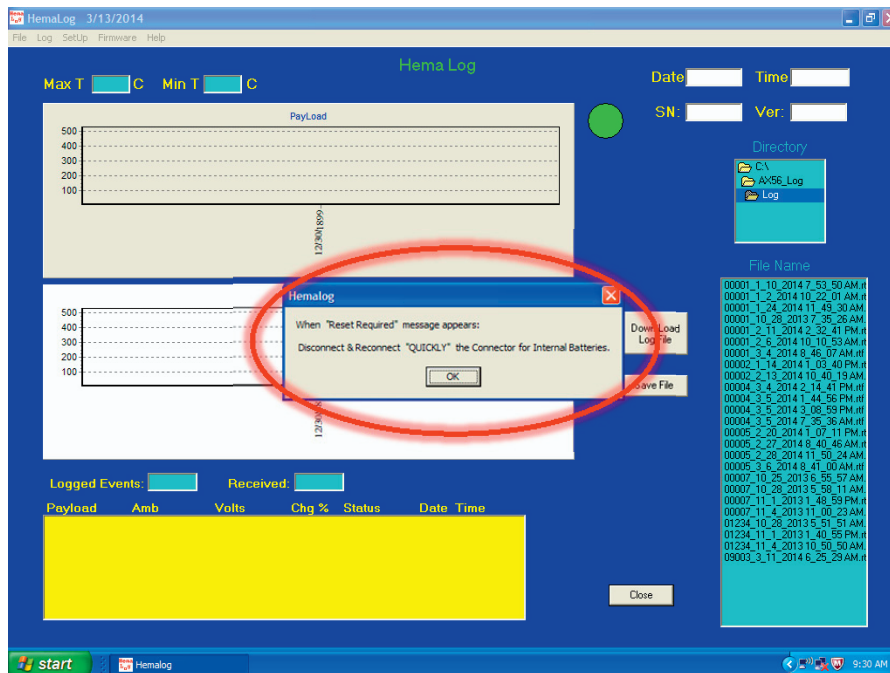

Figure 54. Acknowledge Reset Required
5. A reset is required for a firmware update. Attach a connector for batteries. Acknowledge by pressing the **OK** button to continue (Figure 54).